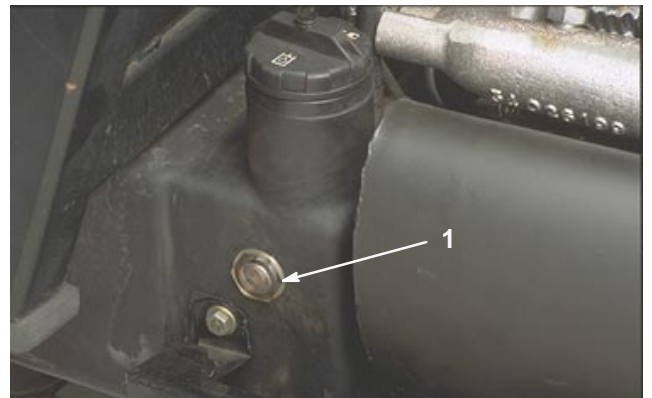

Figure 47
- With wing decks raised, center deck down and oil warm, look into sight gauge (Fig. 47). If hydraulic oil is not visible, add enough oil to raise level to middle (maximum) of sight gauge. To prevent over filling, do not fill if oil is cold. **Do not overfill.**